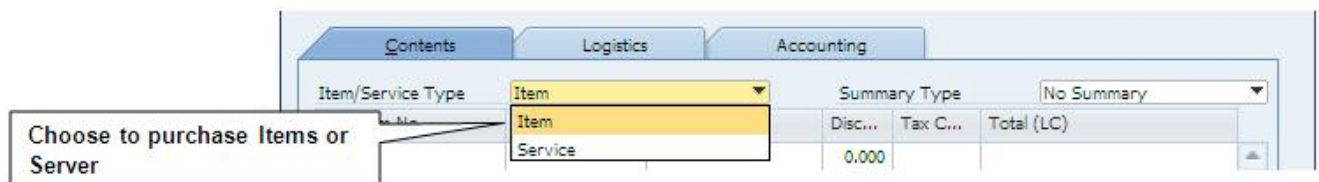

Figure 6-7: Purchasing an item and or a service
- *Vendor*: See “Getting Started: Common Structure and Key Data” earlier in this chapter. Figure 6-7 shows how to specify a payment method.
- *Contents tab*: In the *Item/Service Type* field, make sure the type you select corresponds to what you are ordering, as shown in Figure 6-7. Enter all items (or services—but note that you cannot mix the two items and services in a single purchasing document) you are ordering into the table. (See “Getting Started: Common Structure and Key Data” earlier in this chapter.)